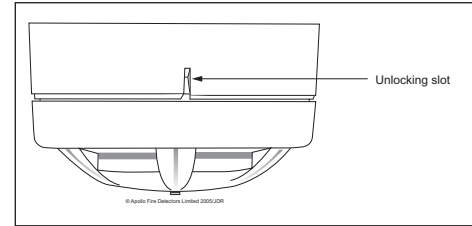

Fig 2 Location of the unlocking slot
2. If the assembly is locked to the Series 60/Series 65 base, unlock it by locating the slot in the adaptor moulding as shown in Fig 2. Then, using a small screwdriver in the slot, gently lever the locking mechanism toward the Series 60/Series 65 base whilst twisting the assembly anticlockwise.